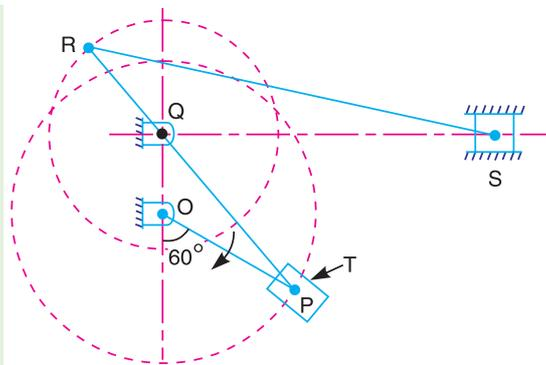

Fig. 7.22
**Example 7.9.** Fig. 7.22 shows the structure of Whitworth quick return mechanism used in reciprocating machine tools. The various dimensions of the tool are as follows :